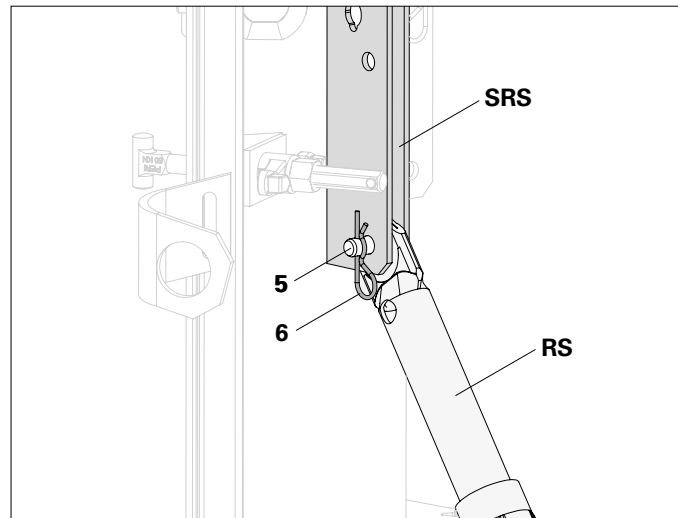

Fig. A7.04
Fix Push-Pull Prop (RS) between the connection lugs (SRS) of the SRS Circular Column Formwork using bolts (5) and cotter pins (6). (Fig. A7.04)